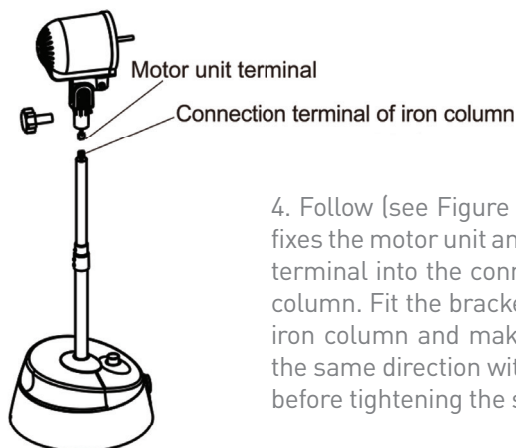

Figure 4
4. Follow (see Figure 4) to loosen the screw that fixes the motor unit and then insert the motor unit terminal into the connection terminal of the iron column. Fit the bracket of the motor unit into the iron column and make sure the motor unit is in the same direction with the mist volume control before tightening the screw.